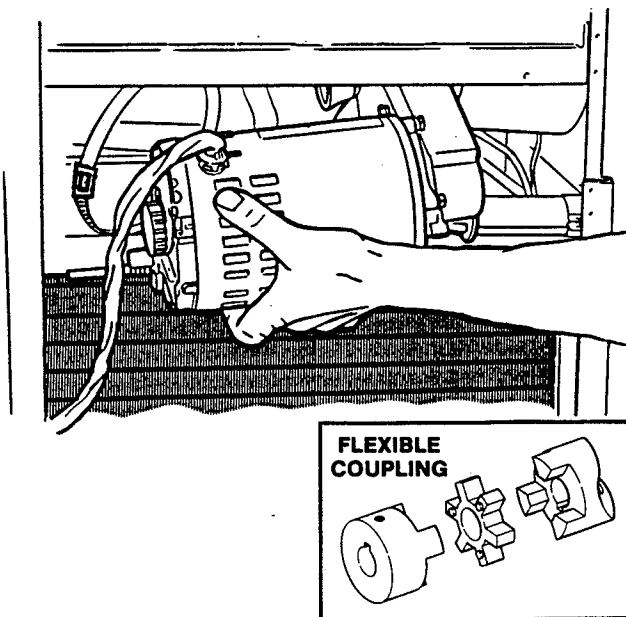

Figure 61. Drive Motor Removal
4. Firmly grasp the drive motor and remove through the side of the freezer (Fig. 61).